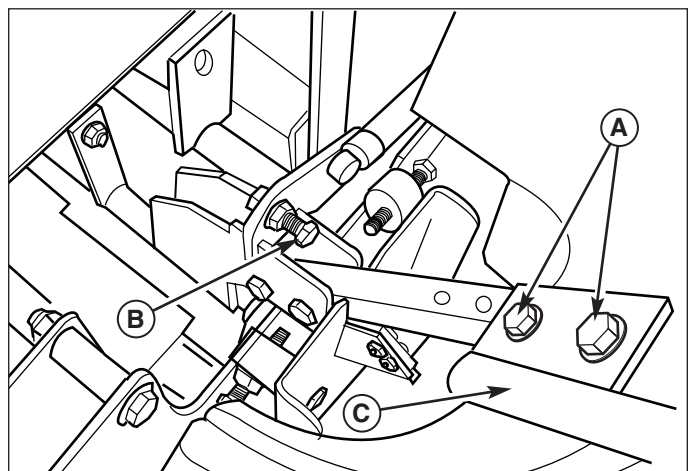

Figure 11. Control Lever Adjustment
To Adjust the Handle Alignment: Loosen the mounting bolts (A, Figure 11) and pivot the ground speed control lever(s) (C) to align with each other. When desired position is achieved tighten the mounting bolts.
To Adjust the Handle Placement: Loosen the jam nuts and adjust the placement bolt (B, Figure 11) in or out to properly adjust the lever end spacing. When desired position is achieved tighten the jam nuts.
To Adjust the Handle Height: Remove the mounting hardware (A, Figure 11) and reposition the handle either up or down from its original position. You will need to readjust the handle alignment as described above.